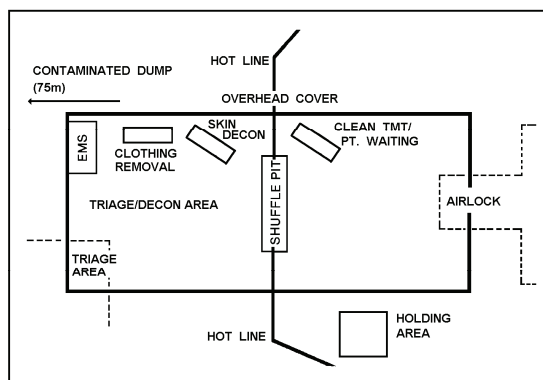

Figure 3-73. Decontamination area
2. Set up the decontamination area. Refer to Figure 3-73.